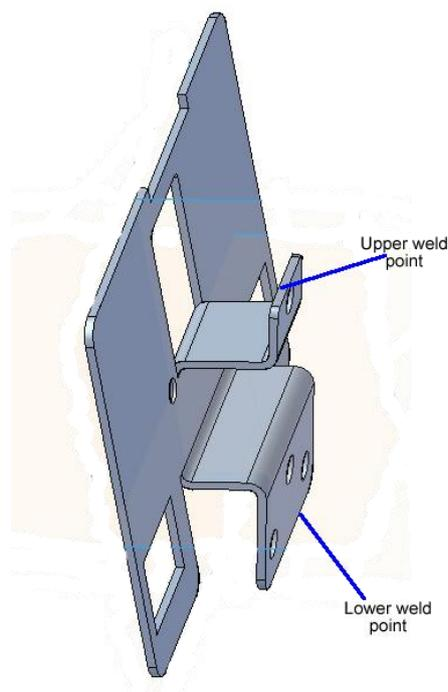

Figure 18: Welding the Terminal 155i bracket to a pipe
3. Weld the bracket in place at the points illustrated in Figure 18.